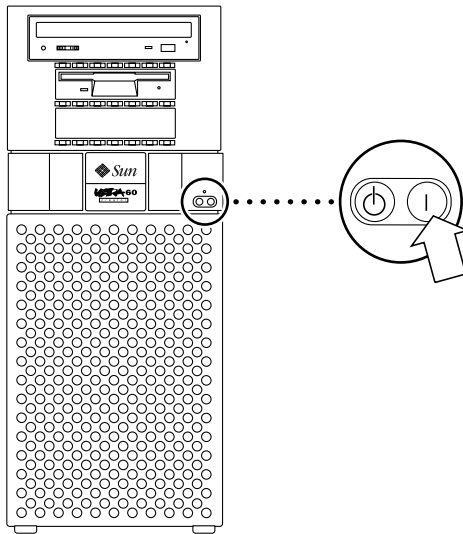
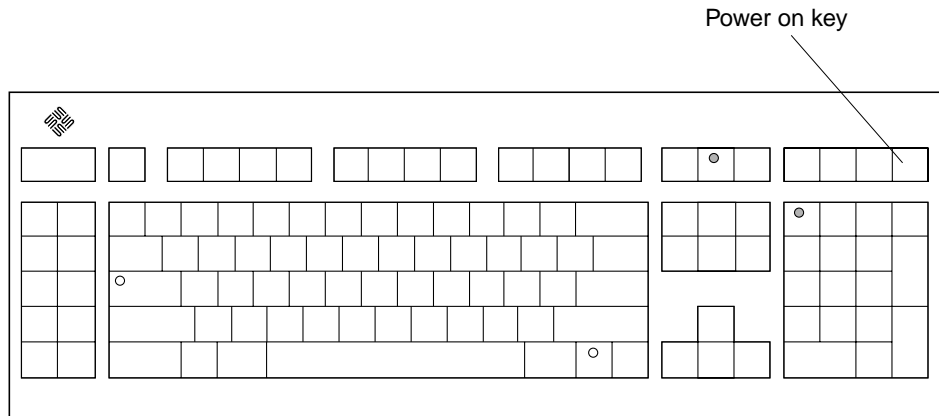

FIGURE 3-6 System Unit Power-On (Front Panel)
FIGURE 3-7 Sun Type -5 Keyboard
3. Set the front panel power switch to the **On** position (FIGURE 3-6) or press the Sun Type-5 keyboard power on key (FIGURE 3-7).